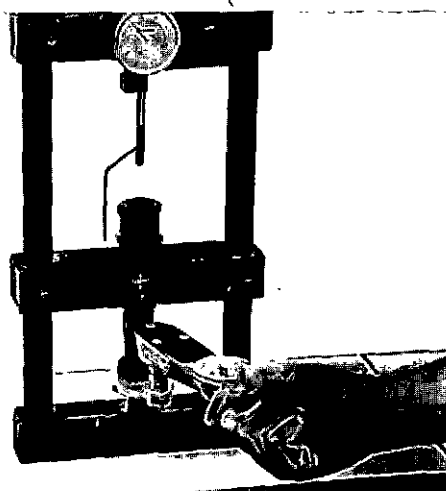

Fig. 4-5, (F60229). Tighten the injector in the fixture
4. Adjust the cup seat up against the injector cup. Tighten to 100 to 115 in/lbs (11 to 13 N•m) torque, Fig. 4-5.